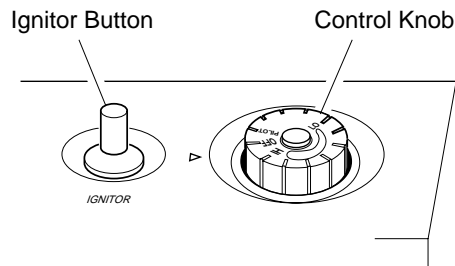

Figure 16 - Control Knob In The OFF Position
4. Wait five (5) minutes to clear out any gas. Then smell for gas, including near the floor. If you smell gas, **STOP!** Follow "B" in the safety information in column 1. If you don't smell gas, go to the next step.
5. Turn control knob counterclockwise to the PILOT position. Press in control knob for five (5) seconds (see Figure 16).